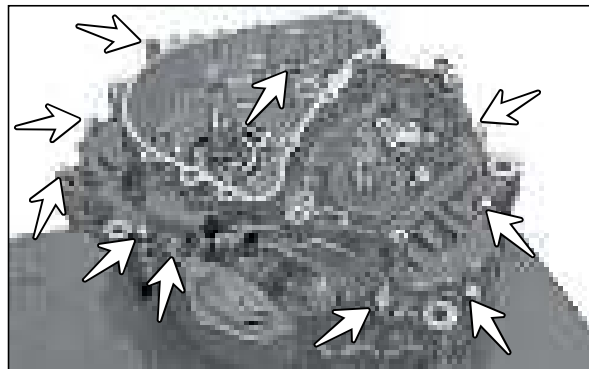

Fig. 3.203
- Assemble and tighten hexagonal flange bolts (M6x55 - 5 Nos., M6x40 - 4 Nos., M6x75 - 4 Nos. and M6x95 - 1 No.) on the crankcase complete LH. (Fig. 3.203)